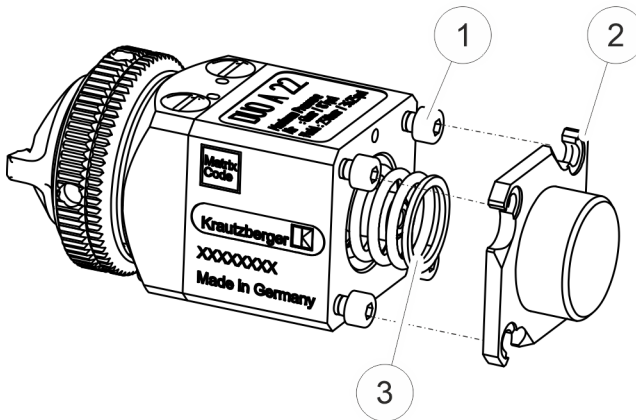

Fig. 36: Screwing the cover in place
4. ➔ Install the pressure spring ( Fig. 36/2). In doing so, ensure that the spring is seated correctly. Hook the cover ( Fig. 36/3) back into the cylinder screws ( Fig. 36/1). Tighten the cylinder screws with a spanner to the stop (tightening torque **2.5 Nm**).